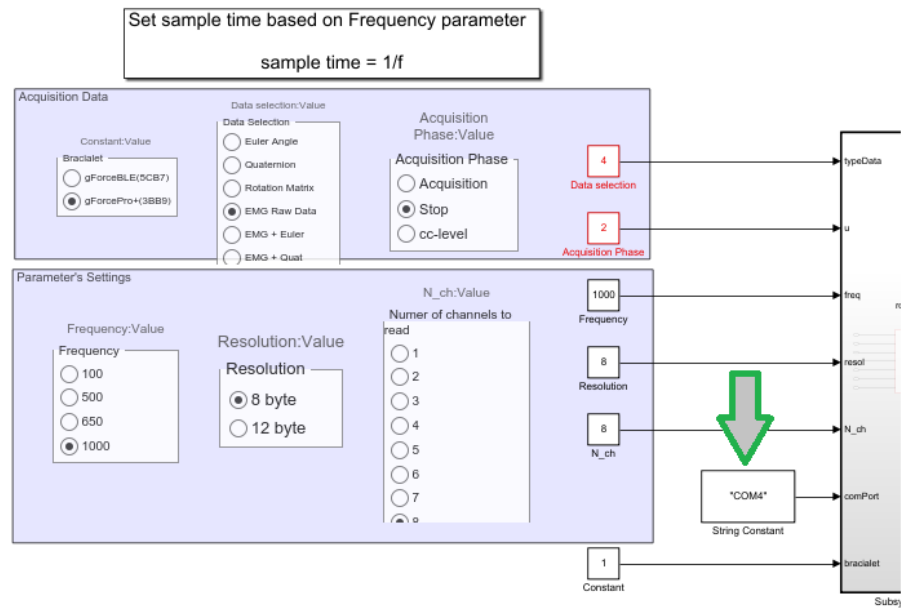

Figure 3: COM Port Setting
4. in 'gForce_data_acquisitionn_ccOnline_ROS_v2_1.slx' set the COM port saved in point Device.5 (Figure 3)